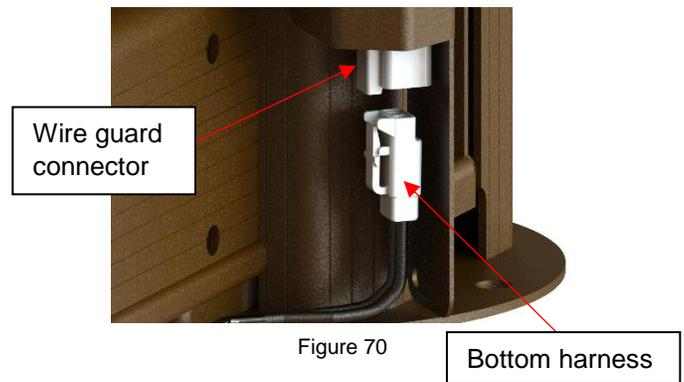

Figure 70
15) Now connect the bottom harness to the wire guard connector. The bottom harness is attached to the key switch cable. Cut the cable tie that holds the bottom harness. Connect it to the wire guard connector. (Figure 70)